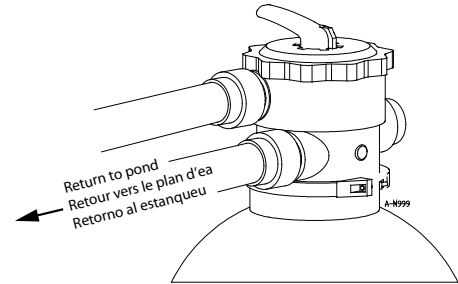

Figure 3
3. Glue the pond return line to the slip-fitted side of the union leading to the valve port marked RETURN (Figure 3).